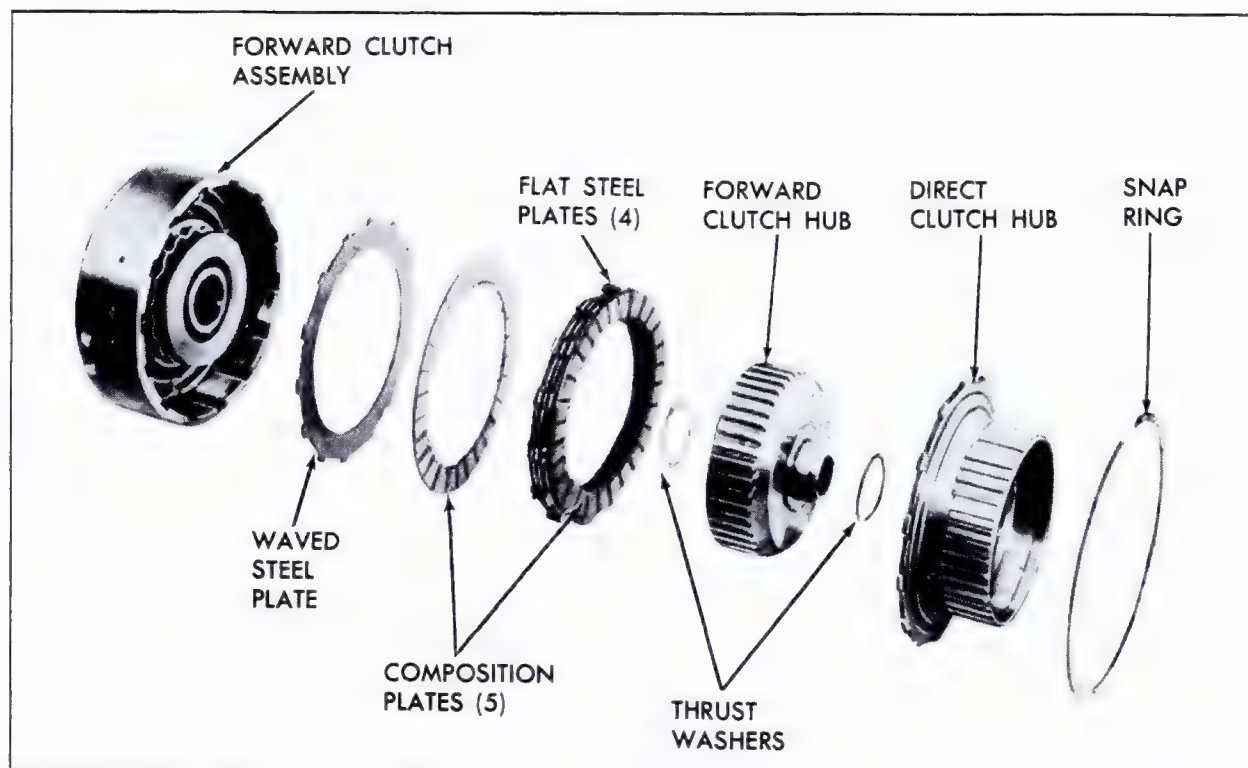

Fig. 7-77 Forward Clutch and Forward and Direct Clutch Hubs Disassembled
4. Remove forward clutch hub and one thrust washer from each side of hub, Fig. 7-77.
11. Lubricate the four flat steel, five radially grooved composition and one waved U-notched steel clutch plates with transmission fluid and install clutch plates in forward clutch housing, Fig. 7-77. Start with waved steel plate and alternate composition and steel plates.